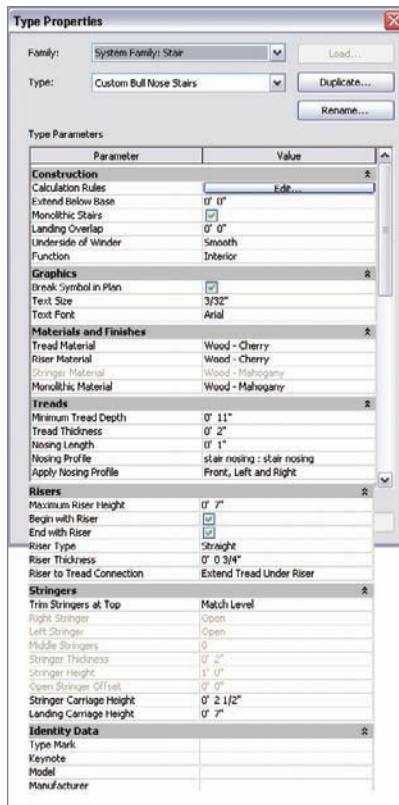

FIGURE 10.63 Configuring the stairs. As you can see, you have quite a few options.
6. In the Type Parameters, under Construction, turn on the toggle for Monolithic Stairs, as shown in Figure 10.63.
8. Change Nosing Profile to Stair Nosing : Stair Nosing (see Figure 10.63).
10. For Riser To Tread Connection, choose Extend Tread Under Riser (see Figure 10.63).